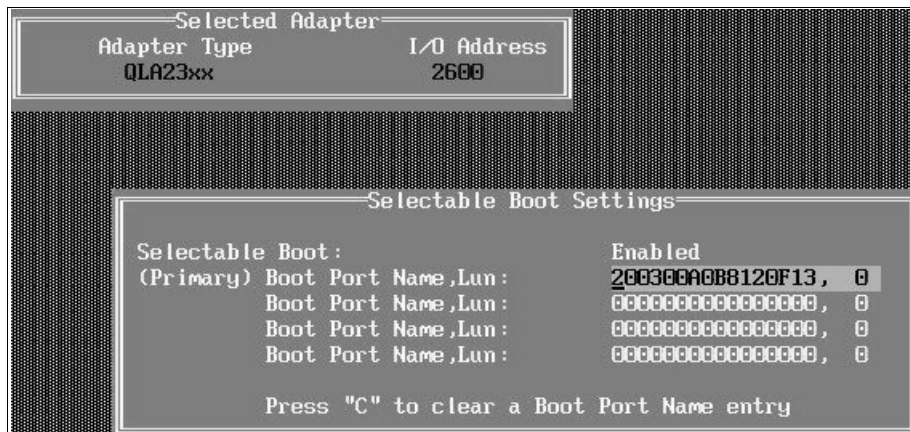

Figure 8-4 Selectable boot Settings
- ▶ From the Configurable Boot Settings panel, set the boot device to the controller's World Wide Port Name, as shown in Figure 8-4 and reboot the server.